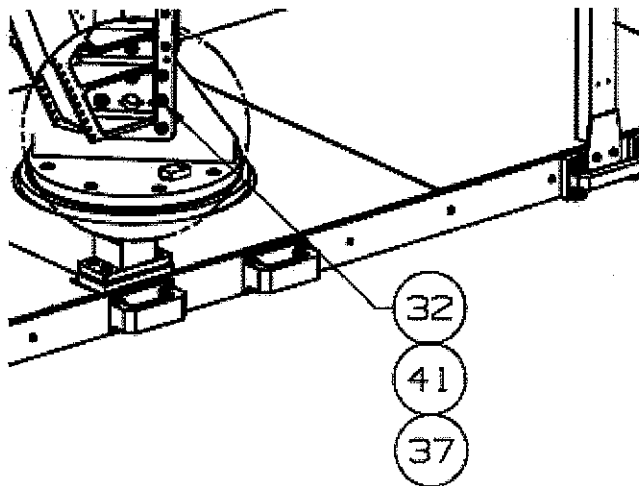

Figure 5
5. Remove six (6) item 32 the USS-02 interface bolts, NAS1958C25 , twelve (12) item 37 countersink washers, NAS1587-8C, and six (6) item 41 self-locking nuts, NAS1291C8M, that secure the Upper USS-02 Assembly to the pedestal weldment as shown in Figure 5. Repeat for all 4 pedestal weldment. Check the fastener and nut for signs of damage. If the bolt or the nut shows damage, mark the hardware and remove from service. Place the bolts, washers, and nuts in a bag. Mark on bag the location from which the bolts, washers, and nuts were removed.